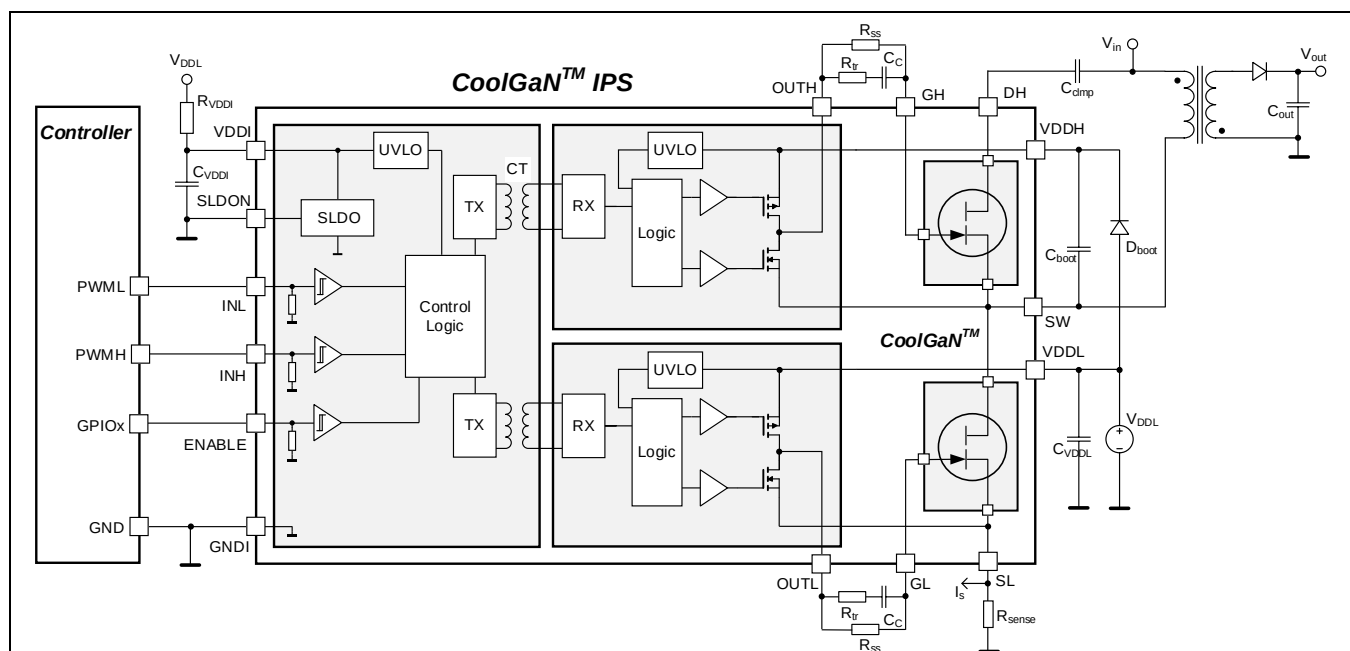
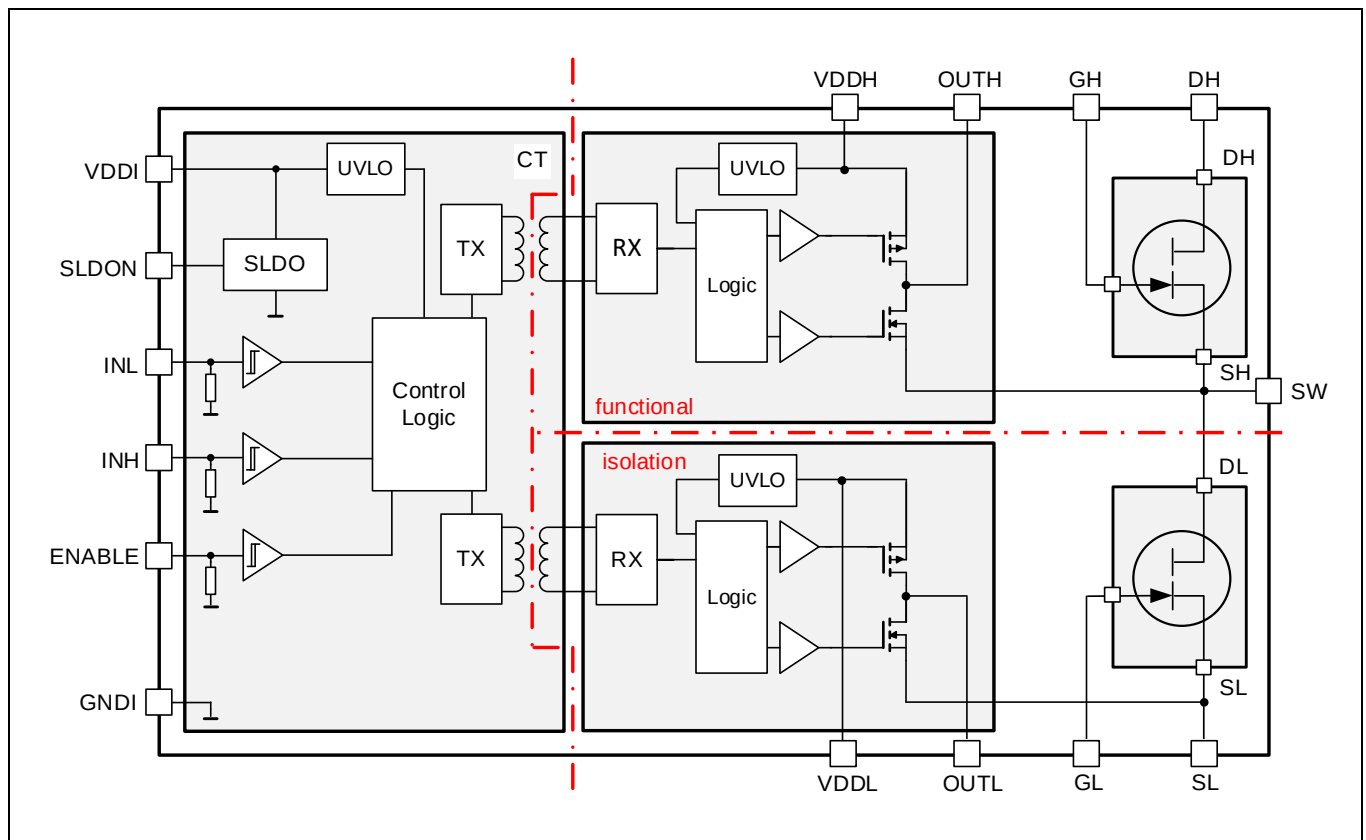

Figure 1 Typical application circuit (active clamp flyback converter)
Figure 3 Block Diagram IGI60F2727A1L
IGI60F2727A1L combines a half-bridge power stage consisting of two 270 m Ω (typ. R_{dson}) / 600 V enhancement-mode CoolGaN™ HEMTs with dedicated gate drivers in a small 8 x 8 mm QFN-28 package. In the low-to-medium power area (example application in Figure 1) it is thus ideally suited to support the design of high-density AC/DC chargers and adapters utilizing the superior switching behavior of CoolGaN™ HEMTs.
A simplified functional block diagram of the CoolGaN™ Power Stage is given in Figure 3. For the level-shifting function of the input signal to the high-side switch an on-chip coreless transformer (CT) is utilized. For symmetry reasons a CT is also included in the low-side path, resulting in both a galvanic input-to-output and high-to-low-side isolation. In addition, this CT separates the low-side gate driver reference (SL) from GNDI allowing to use a shunt resistor for current sensing as shown in Figure 1.
If no separate 3.3 V supply is available, the input side can also be operated with V_{DDL} (typically 8 V). Then the shunt LDO voltage regulator (SLDO) has to be enabled by connecting pin SLDON (pin#23) to GNDI. The SLDO regulates the current through an external resistor R_{VDDI} connected between V_{DDL} and pin V_{DDI} as depicted in Figure 1 to generate the required voltage drop. For proper operation it has to be ensured that the current through R_{VDDI} always exceeds the maximum supply current I_{VDDI} of the input chip. R_{VDDI} thus has to fulfil: